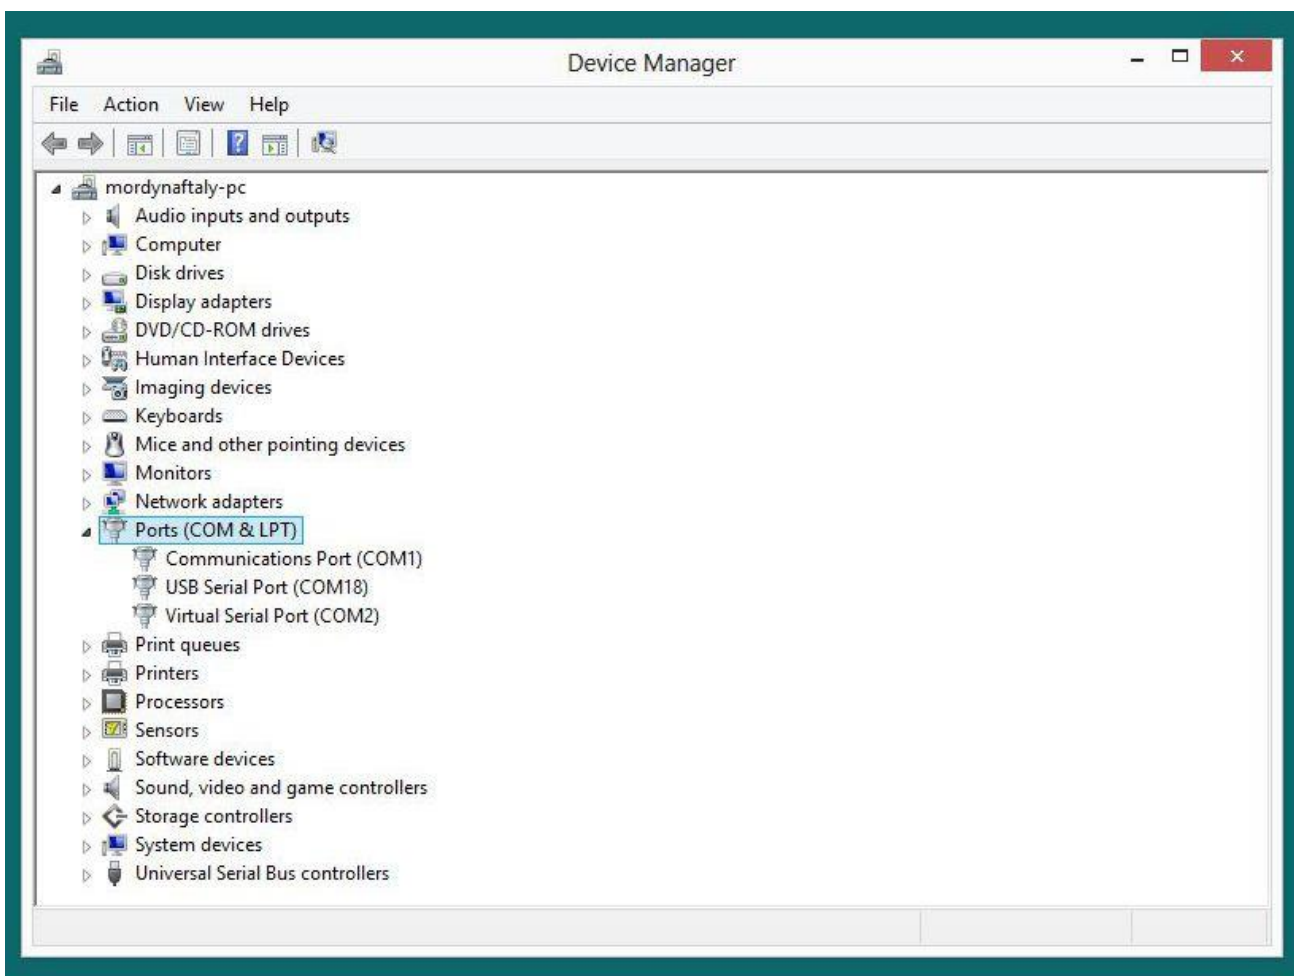

FIGURE 4.11 – CONTROL PANEL – PORTS ASSIGNMENTS
- 2) Determine which COM ports you are using. The ports list of the device manager of control panel will show you the used COM ports. (SEE FIGURE 4.11)